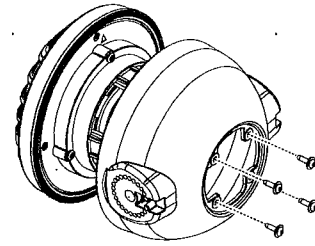

Figure 4
1. Remove the **MLS-300i** from the bracket by removing the two Mounting Bracket Knobs, then remove the rear case of the **MLS-300i** from the main body by removing the four screws (Figure 4).